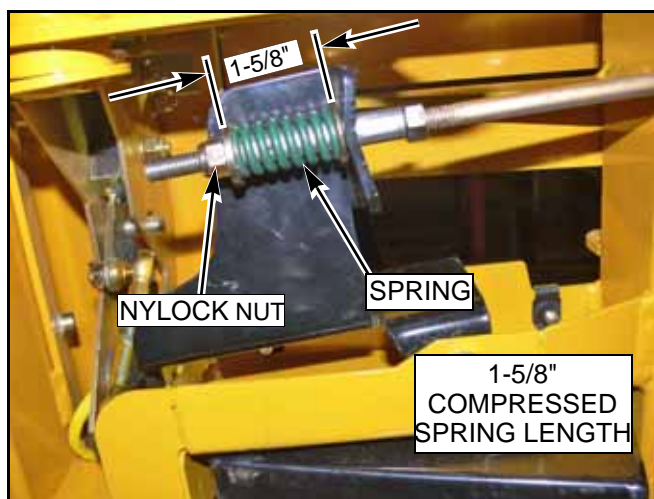

FIG. 57
3. Measure the park brake spring. It should be compressed to 1-5/8". If it is not, adjust the nylock nut until the proper spring compression is achieved, FIG. 57.